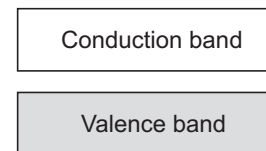

Fig. 4.11
2. Semiconductors. Semiconductors are solids for which valence band is completely filled and conduction band is completely empty. There is a small band gap ($E_g < 3$ eV) between the valence band and the conduction band [Fig. 4.11]. For germanium, band gap is 0.72 eV and for silicon it is 1.1 eV.